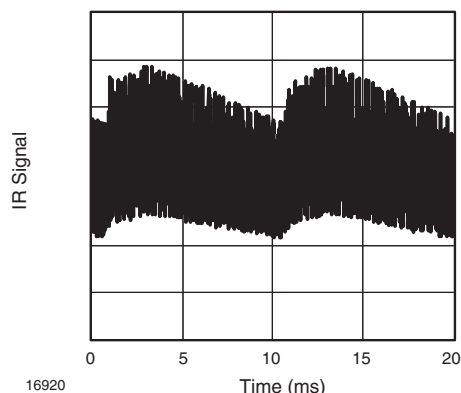

Fig. 13 - IR Signal from Fluorescent Lamp with Low Modulation
- Strongly or weakly modulated patterns from fluorescent lamps with electronic ballasts (see figure 12 or figure 13)